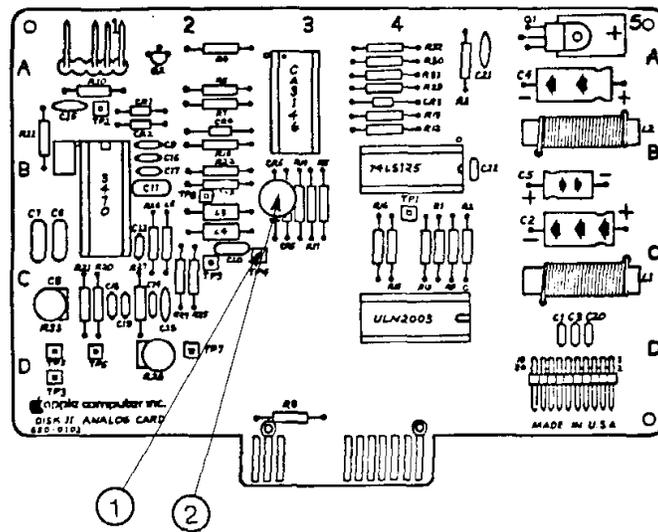

FIGURE 17
13. Hook ground clip to TP4 and the scope probe to TP8 on the target disk analog card. (Figure 17, #'s 1 and 2).